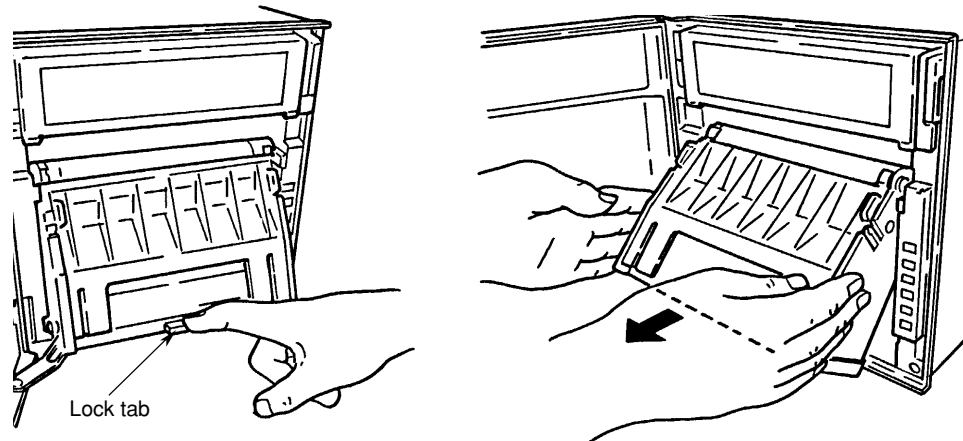

Figure 5.2
- 4 While gently pressing the chart paper compartment lock tab, located in the middle at the lower front, in the direction of the arrow, swing and lift the compartment away from the unit (see figure 5.2).